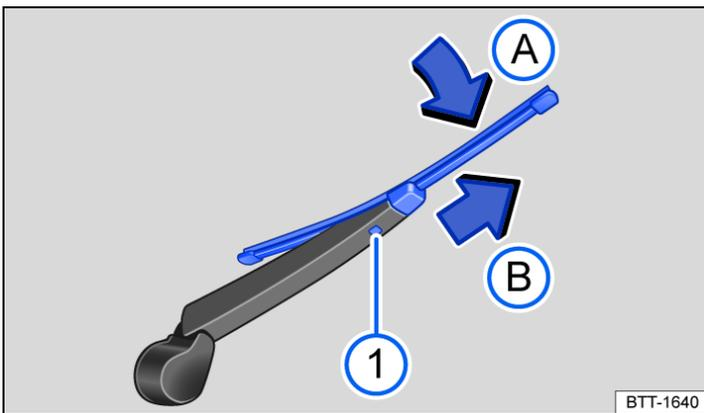

Fig. 2 Changing the rear window wiper blade.
- Press and hold the release button → Fig. 2 ¹.